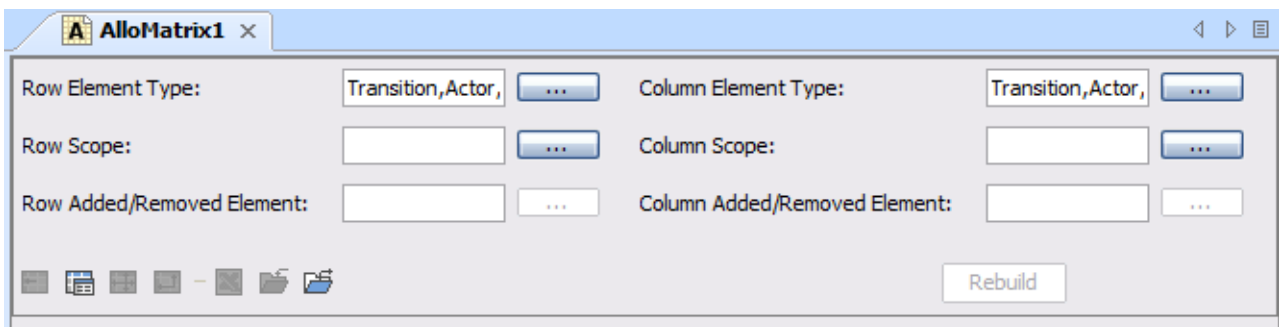
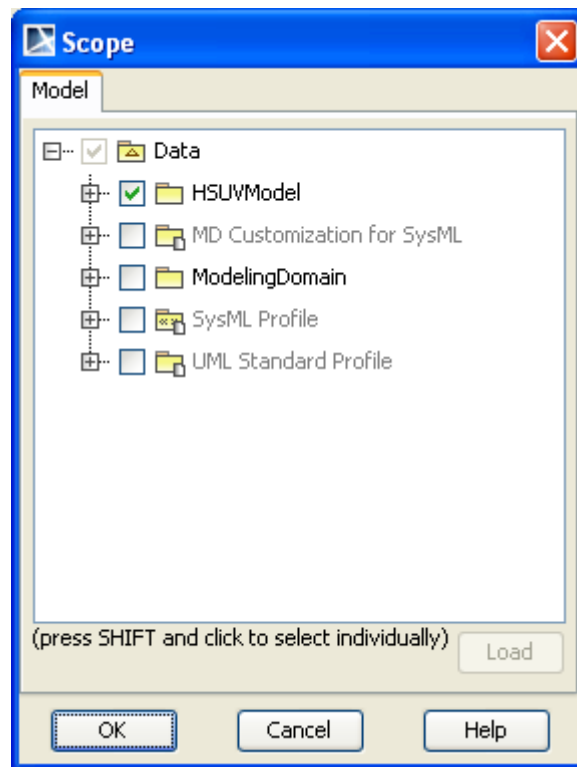

Figure 263 -- Scope Button
Figure 264 -- Scope Dialog
1. Click the ... button next to the **Row Scope** in the matrix pane (Figure 263). The **Scope** dialog will open (Figure 264).
4. Click the ... button next to the **Column Scope** in the matrix pane (Figure 263). The **Scope** dialog will open (Figure 264).